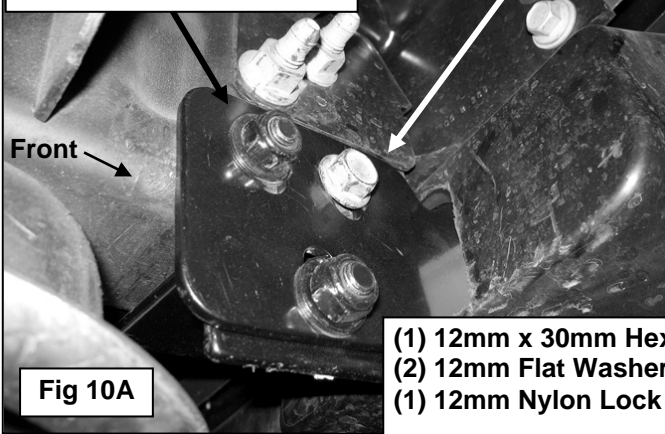

Fig 10A
Line up the hole in the bottom of the Support Bracket with the lower hole in the Mounting Bracket. Bolt the (2) Brackets together with the included (1) 12mm x 30mm Hex Bolt, (2) 12mm x 24mm STD Flat Washers and (1) 12mm Nylon Lock Nut, **(Figs 10A & 10B)**. Do not fully tighten hardware.
9. With assistance, hold the Grille Guard up in position on the outside of the Mounting Brackets. Bolt the Grille Guard to the Brackets with (6) 12mm x 30mm Hex Bolts, (12) 12mm x 32mm Large Flat Washers and (6) 12mm Nylon Lock Nuts, **(Figs 10A & 10B)**. Snug but do not tighten hardware at this time.